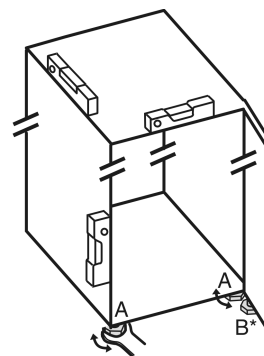

Fig. 26
- ▶ Unscrew the adjustable feet Fig. 26 (A) using the enclosed open-end spanner and a spirit level until the appliance is firmly aligned and level.
- ▶ Unscrew the adjustable foot Fig. 26 (B) on the swap bearing block with the enclosed open-end spanner until it rests on the floor.
- ▶ Turn the adjustable foot Fig. 26 (B) 90° further.